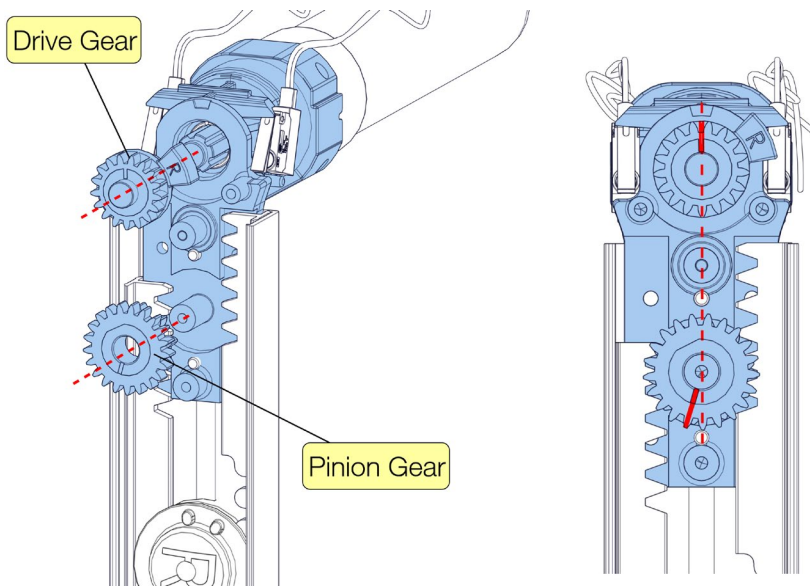

Fig. 23.4.4.1-1.5
7. Ensuring the countersunk side is face up, place the cover plate into position, lining up to the shafts of the housing. *Refer to Figure 23.4.4.1-1.8.*
8. Insert 3 screws,  $\varnothing 2.80 \times 12\text{mm}$ , 304 S/S No.1 Phillips's drive countersunk heads, through cover plate, starting with the bottom screw. *Refer to Figure 23.4.4.1-1.9.*